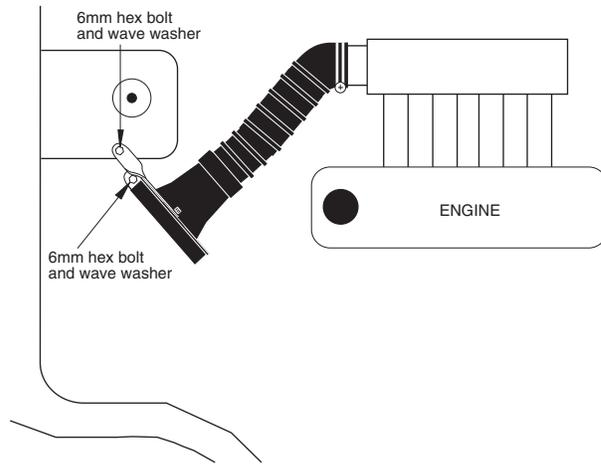

fig. 2
- 4) Slide the adapter into the intake hose. Use supplied hardware to fasten the short bracket to the old airbox hole in fender well, and the long twist bracket to the unused hole on top of shock tower. (see fig. 2)